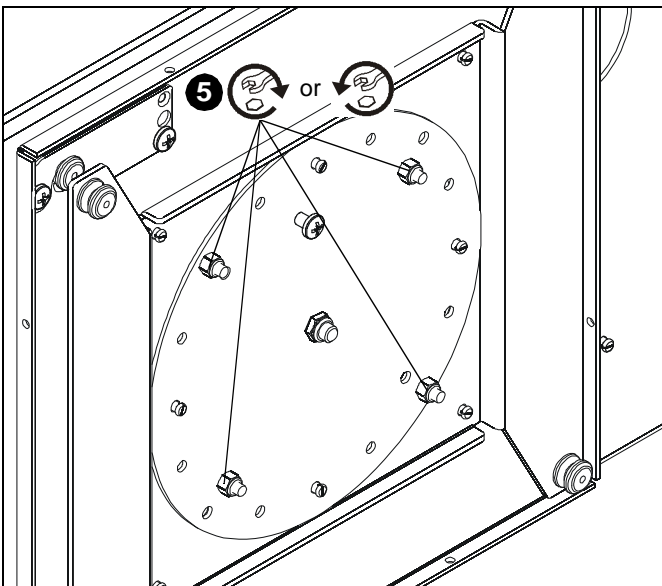

Figure 4
5. Set desired amount of friction for rotating screen by tightening or loosening nuts on back side of PAC-400. (See Figure 4)